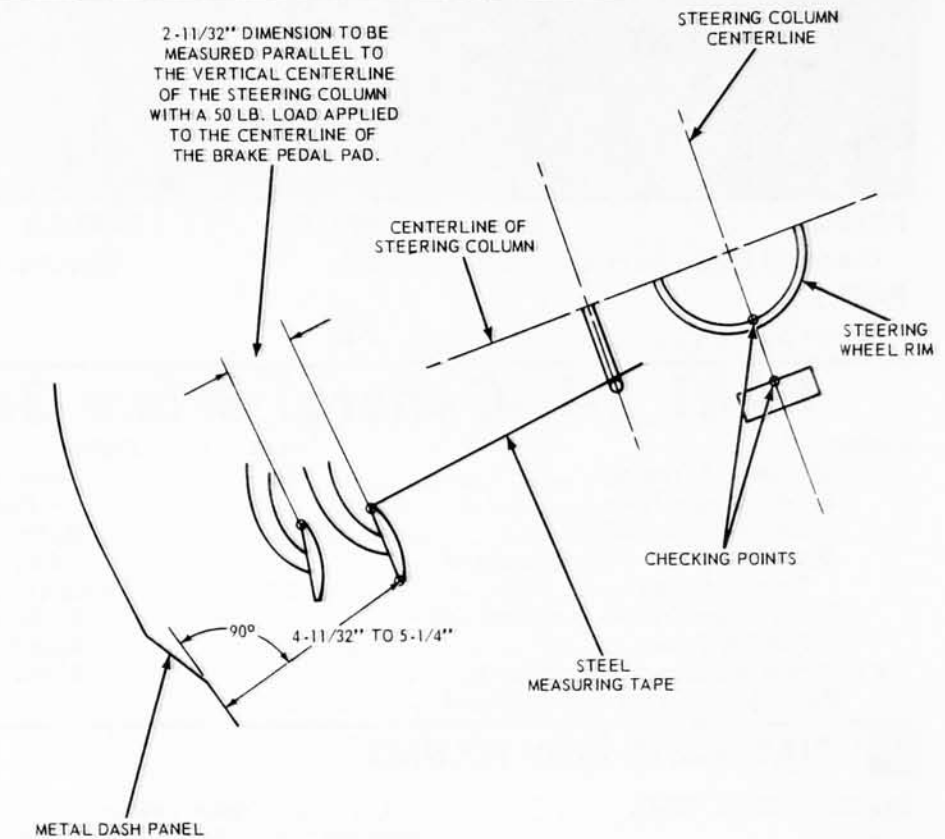

FIG. 1—Brake Pedal Height and Travel Measurements
1. Insert a slender, sharp pointed prod through the carpet and sound deadener to the dash panel metal and measure the distance to the brake pedal (Fig. 1).
2. Hook a steel measuring tape to the brake pedal as shown in Fig. 1. Measure and record the distance from the brake pedal free height position to the reference point, which is at the six o'clock position on the steering wheel rim.
4. The difference between the brake pedal free height and the depressed pedal measurement under a 50 pound load should be within the specified maximum pedal travel service specification B in Fig. 1.
5. If the pedal travel is more than the specified maximum shown, in Fig. 1, dimension B, make several sharp reverse stops (equivalent to 50 pounds pedal pressure) with a forward stop before each. Move the vehicle in reverse and forward for a distance of approximately ten feet; then apply the brakes sharply and hold the brake pedal down until the vehicle is completely stopped. This will actuate the brake self-adjusters. If these stops do not bring the brake pedal travel within